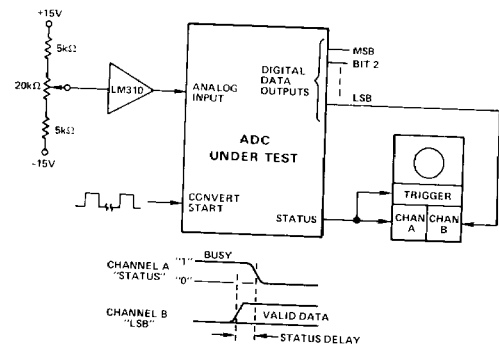

Figure 3. ADC Status Valid Test
1. Connect the ADC under test as shown in Figure 3.